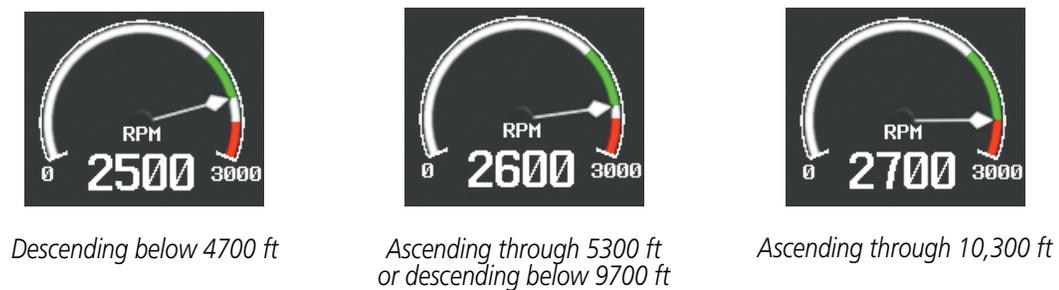

Figure 3-6 172S Tachometer Green Arc Expansion
| <p>② Tachometer (RPM)</p>                                                                     | <p>Displays propeller speeds in revolutions per minute (rpm)Red range indicates propeller overspeed warningModels 172S, 206H, and T206H – White high-rpm range indicates above normal operating speedsModel 172S – When ascending through 5300 ft, the upper end of the green arc displays 2600 rpm and ascending through 10,300 displays 2700 rpm. When descending below 9700 ft, the upper end of the green arc returns to 2600 rpm and descending below 4700 ft returns to 2500 rpm (Figure 3-6)</p> |
*Model 172S* – When ascending through 5300 ft, the upper end of the green arc displays 2600 rpm and ascending through 10,300 displays 2700 rpm. When descending below 9700 ft, the upper end of the green arc returns to 2600 rpm and descending below 4700 ft returns to 2500 rpm (Figure 3-6)
- ③ **Fuel Flow (FFLOW GPH)**
- ③ **Oil Pressure (OIL PSI)**